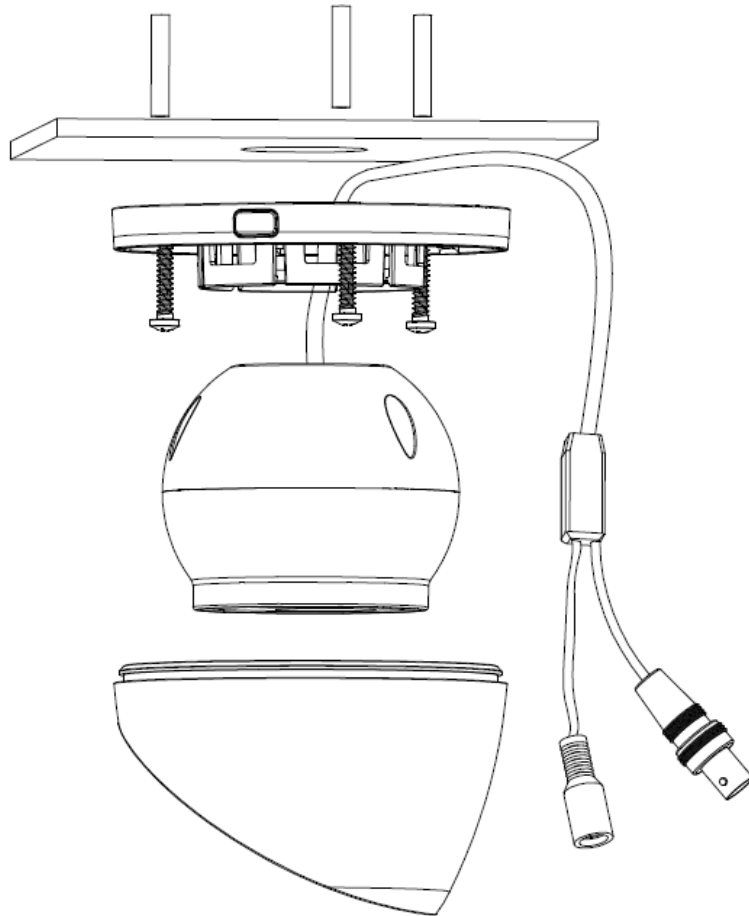

Figure 3-1
- If it is plastic enclosure, then press the button on the pedestal, open the enclosure and take down the pedestal, see Figure 3-1.